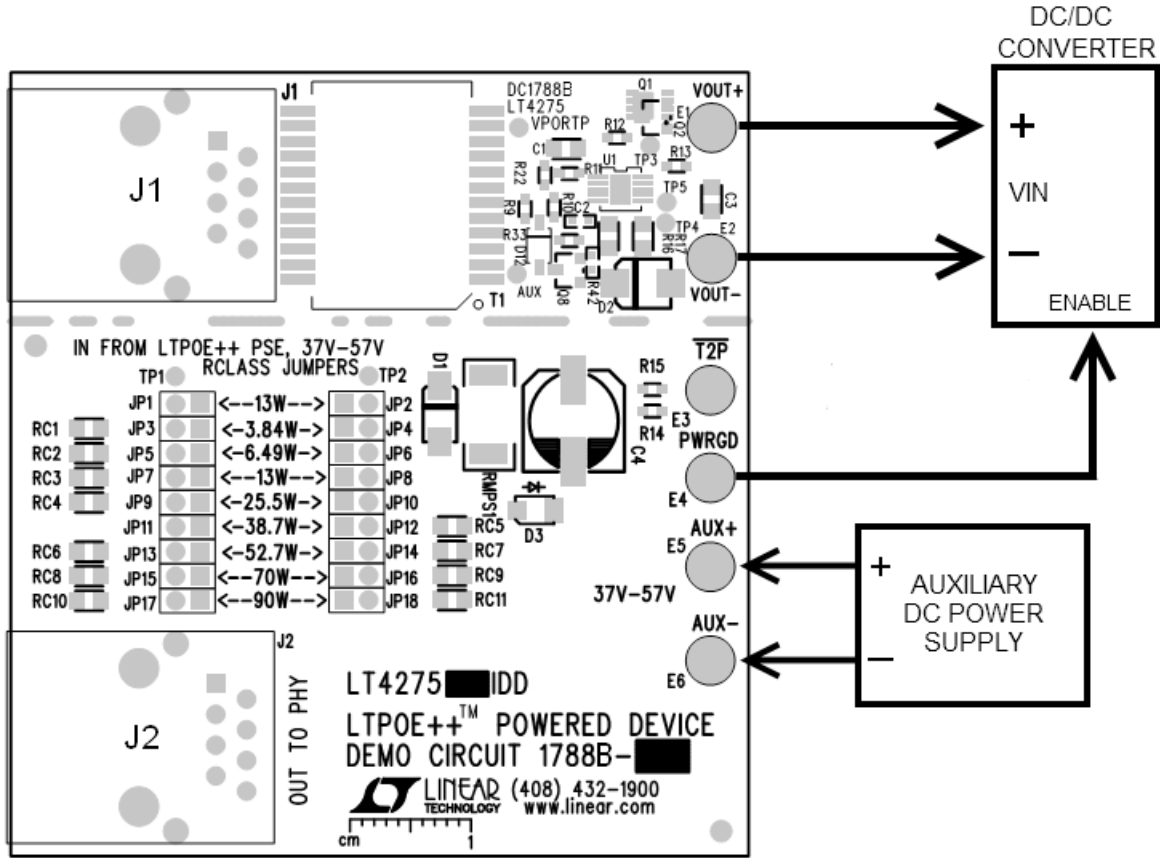

Figure 5. Setup Diagram for the DC1788B-C with a DC/DC Converter and an Auxiliary DC Power Supply
1. Refer to Figure 5 to evaluate the DC1788B-C with a DC/DC converter and an auxiliary DC power supply.